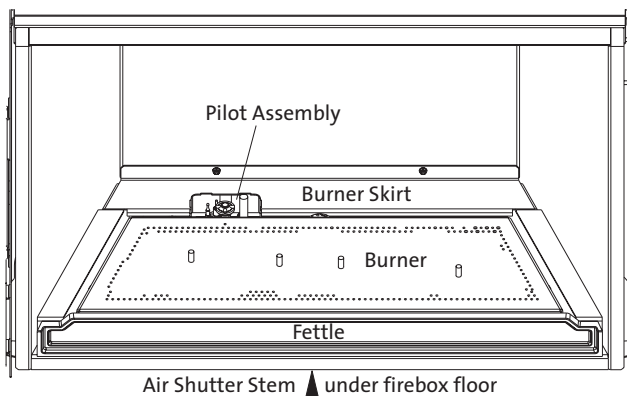

Figure 13. Firebox component identification.
- If you have not already done so, remove the fettle and log set from the firebox. **CAUTION: THE LOGS ARE FRAGILE.** Handle them with care and set aside out of the way. See fig. 13.
5. **Replace the Burner Assembly:** Slide the venturi tube into the Air Shutter and engage the tube fully over the orifice. The burner should engage with the support brackets on the floor of the firebox. Properly located, the burner will be level and locked into correct alignment with the pilot assembly as in fig. 13.